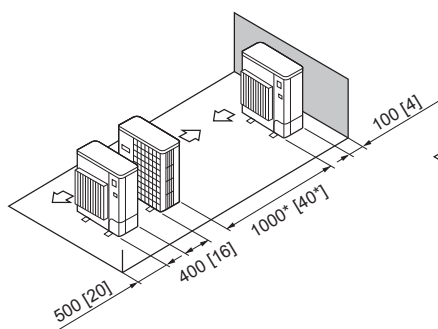

Fig. 2-16
- Single parallel unit arrangement (Fig. 2-16)